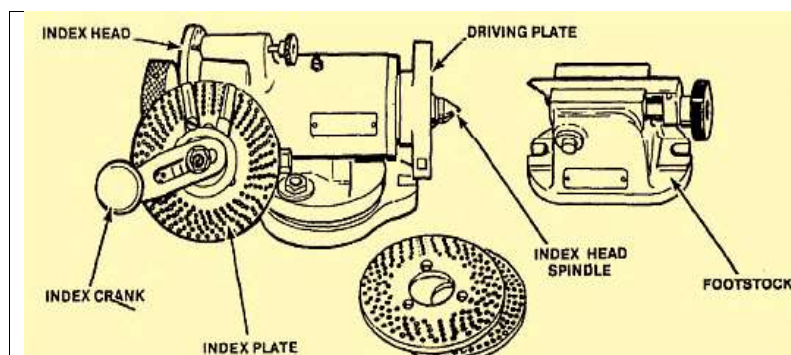

Figure 8-19. Indexing fixture.
Indexing is the process of **evenly dividing** the circumference of a circular workpiece into equally spaced divisions, such as in cutting **gear teeth**, cutting **splines**, milling **grooves** in reamers and taps, and **spacing holes** on a circle. The index head of the indexing fixture is used for this purpose. The universal index head is the name applied to an index head designed to permit power drive of the spindle so that helices may be cut on the milling machine. Gear cutting attachment is another name applied to an indexing fixture; in this case, one that is primarily intended for cutting gears on the milling machine. (Figure 8-19).
**Index Fixture:** Is also called a dividing head. Consists of an index head, and footstock similar to the tailstock of a lathe, attached to the worktable of the milling machine by T-slot bolts. The index plate containing graduations is used to control the rotation of the index head spindle, fixed to the index head and an index crank, connected to the index head spindle by a worm gear and shaft. Workpieces are held between centers by the index head spindle and footstock, and may also be held in a chuck mounted to the index head spindle. (Figure 8-19).
**Index Head:** The index head of the indexing fixture contains an indexing mechanism which is used to **control the rotation** of the index head spindle to space or divide a workpiece accurately. Is a simple indexing mechanism which **consists of a 40-tooth** worm wheel fastened to the index head spindle, a single-cut worm, a crank for turning the worm shaft, and an index plate with sectors. Since there are 40 teeth in the worm wheel, one turn of the index crank causes the worm, and consequently, the index head spindle to make 1/40 of a turn. (Figure 8-19).